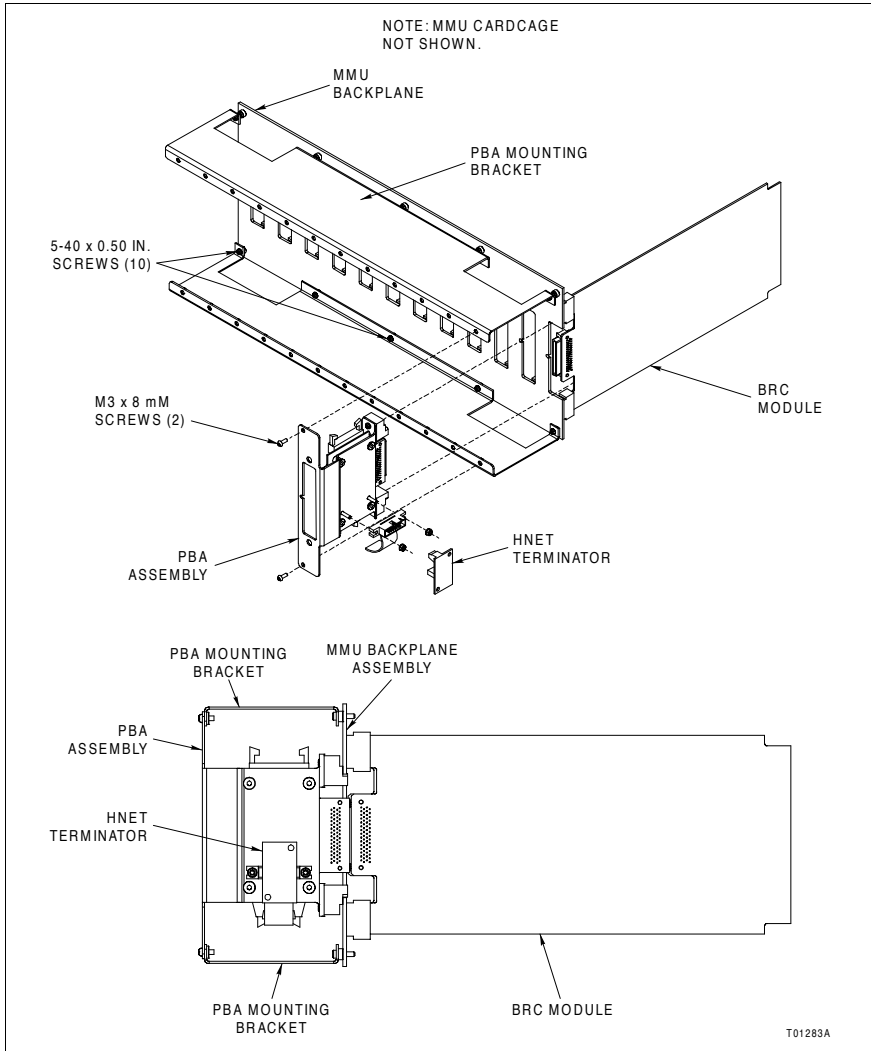

Figure 3-3. Processor Bus Adapter Brackets Installation
3. Install one PBA mounting bracket to the top of the module mounting unit backplane assembly using five of the 5-40 screws provided with the brackets (Fig. 3-3).